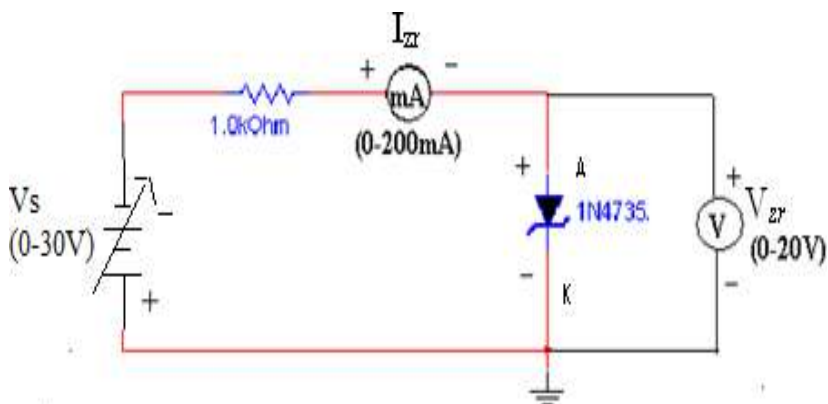

Figure 7.5: Reverse Bias Condition
- a) Connect the circuit as shown in Figure 7.5.